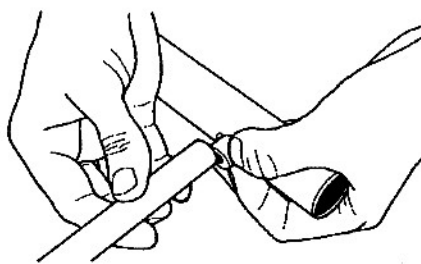

Fig. A-14
18. For the fence tube on the outfeed side of the table, place a spacer between the fence tube and the brace, as demonstrated in Fig. A-14.